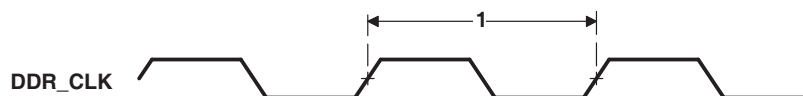

Figure 6-18. DDR2 Memory Controller Clock Timing
Table 6-27. Switching Characteristics Over Recommended Operating Conditions for DDR2 Memory Controller^{(1) (2)}(see Figure 6-18)